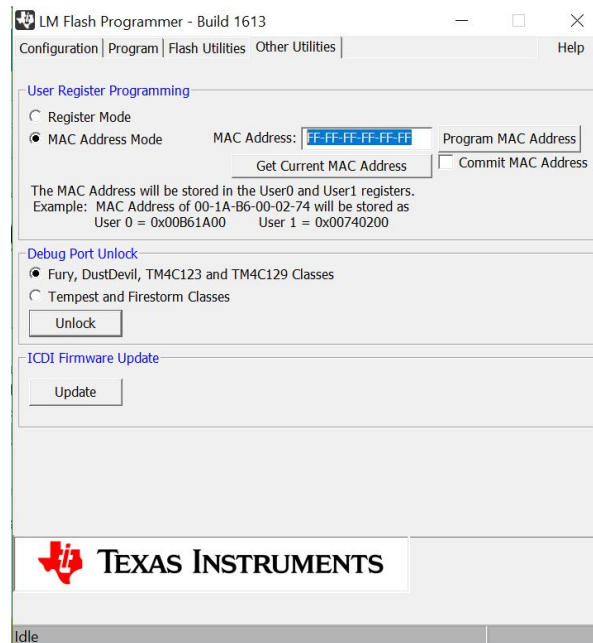

Figure 6. LM Flash Programmer's Other Utilities menu
3. Go to the Other Utilities Tab and select Fury, DustDevil, TM4C123, and TM4C129 Classes under Debug Port Unlock. Figure 6 below visualizes this step. Press Unlock. Once this is done, test that the programmer is communicating with the board by pressing Get Current Mac Address. The empty bar should read FF-FF-FF-FF-FF-FF.